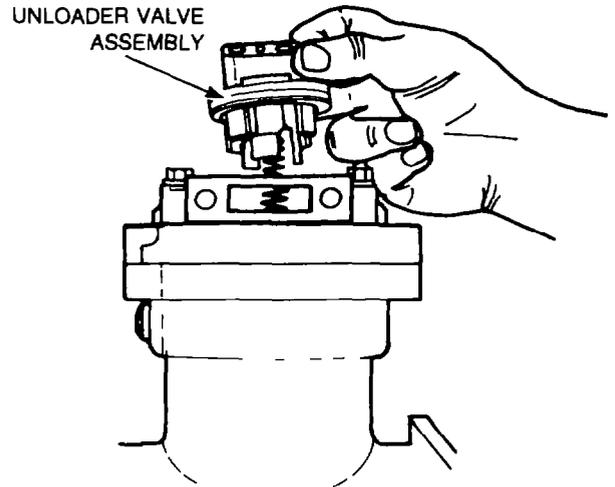

Figure 228 — Unloader Valve Assembly — Removal
- d. Remove the two bolts and washers securing the unloader valve assembly to the cylinder head cover, then remove the unloader valve assembly (see Fig. 228).